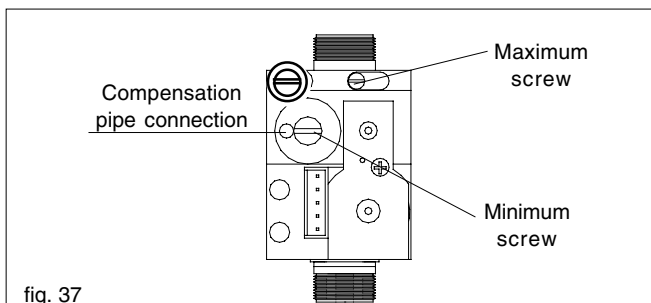

fig. 37
- Using a 2.5mm Allen key, very slowly turn the maximum adjustment screw (see fig. 37) – clockwise to decrease, counter clockwise to increase – until the correct value is displayed on the CO₂ analyser (allow time for the analyser to stabilise).